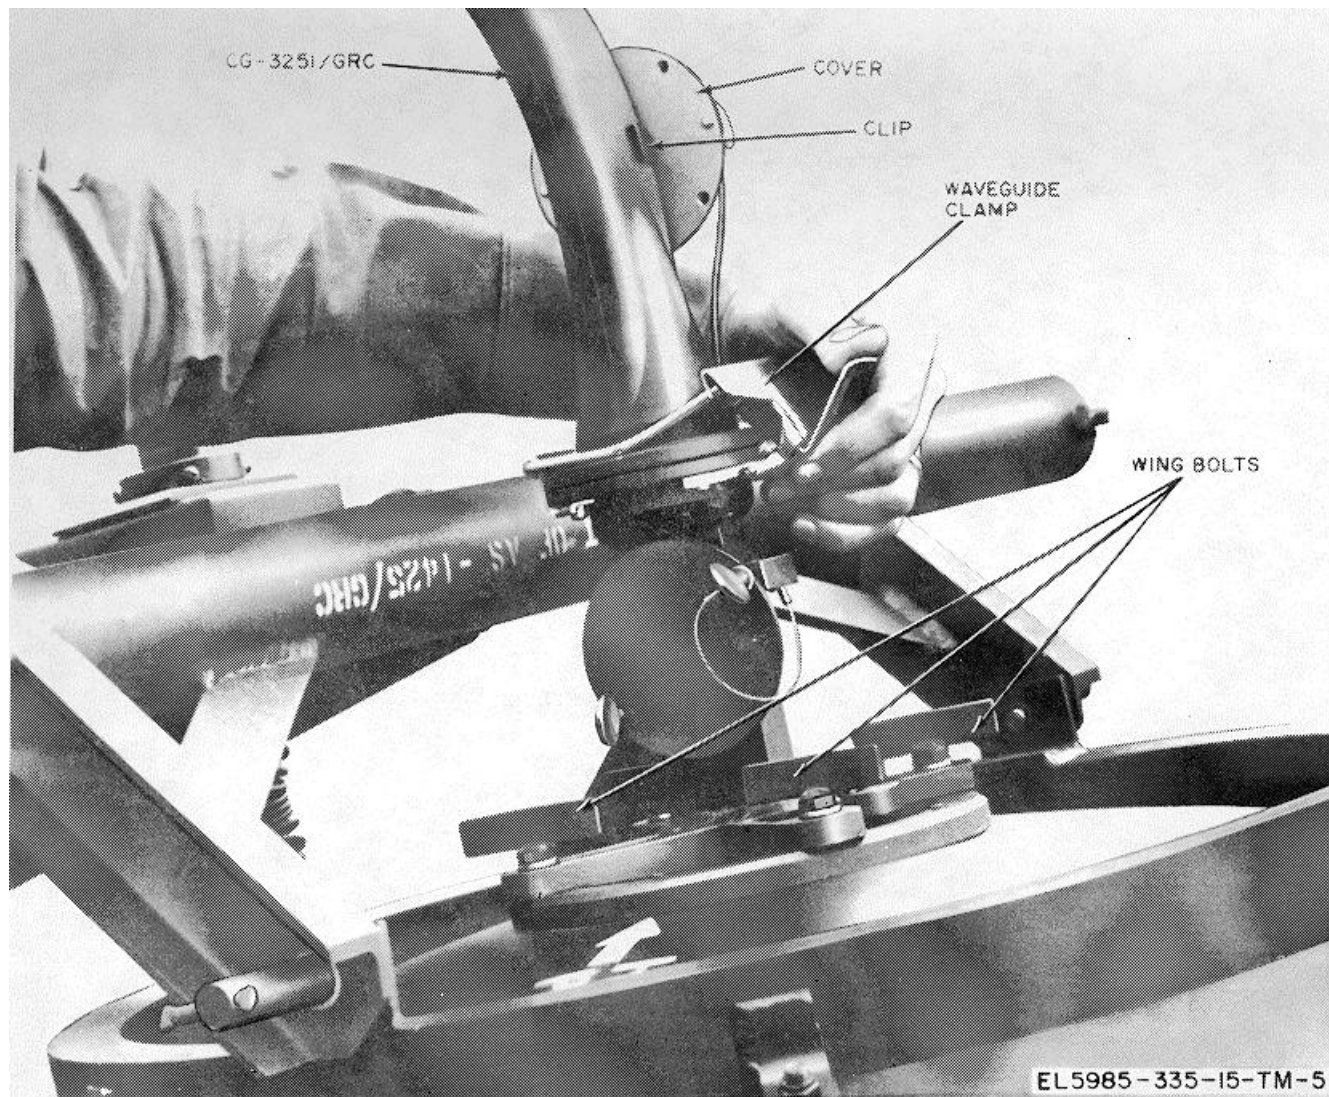

Figure 2-8. Attaching waveguide to feedhorn.
- i. Clamp one 4 1/2-foot section of CG-3251/GRC flexible waveguide to the feedhorn (fig. 2-8). A clamp is provided on the waveguide section. Stow the flexible waveguide cover in the clip provided on the waveguide.
- h. Clamp one 4 1/2-foot section of CG-3251/GRC flexible waveguide to the feedhorn (fig. 2-8). A clamp is provided on the waveguide section. Stow the flexible waveguide cover in the clip provided on the waveguide.